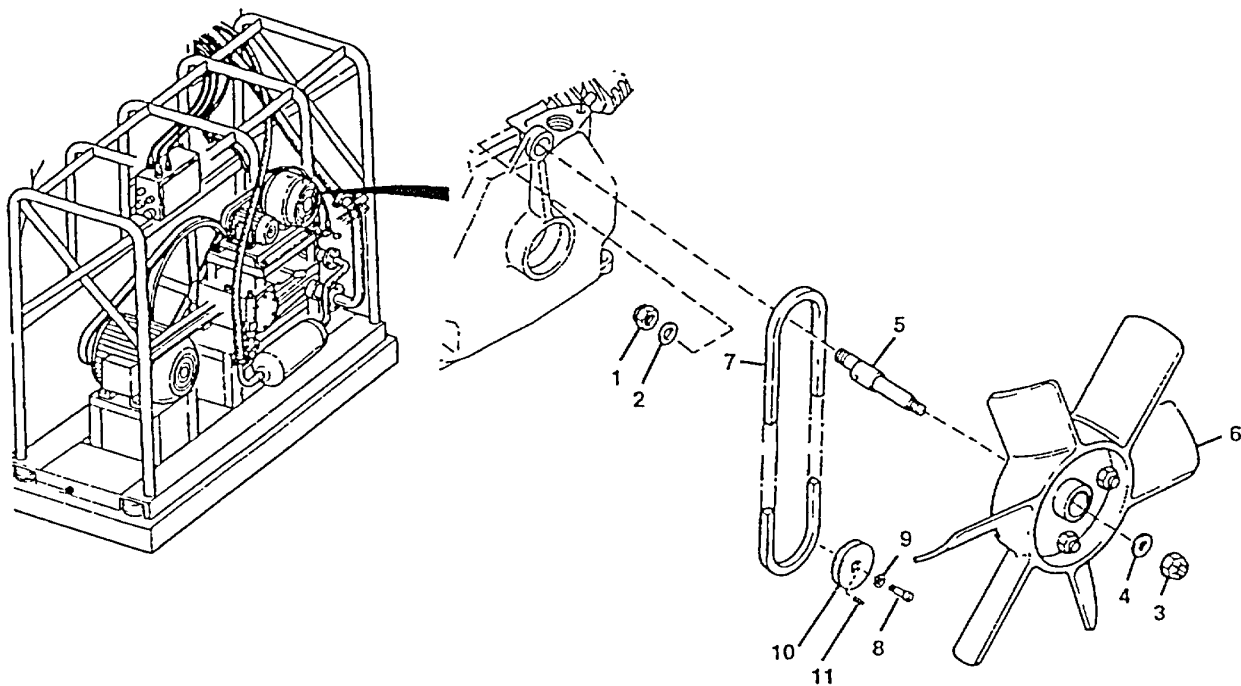

Figure 4-94. Air Compressor, Removal and Installation
**Relieve air compressor pressure by opening the drain valve at the air pressure relief valve (Figure 4-94) before attempting to do any work on air system Failure to do so could result in serious injury.**